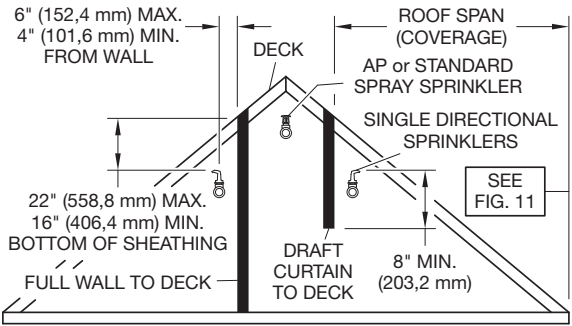

FIGURE 2
- As the 400 ft² (37,2 m²) is not a factor with the SD Sprinklers, the maximum spacing is 6 feet (1,8 m) and the minimum is 4 feet (1,2 m) (Ref. Figures 2 & 11). (The reason 400 ft² is not an issue with the single directional is because, at its maximum spacing, 6 feet [1,8 m] on center / covering 40 feet [12,2 m] flat / a 12:12 slope / and the throw being 56.5 feet [17,2 m], the 400 ft² [37,2 m²] maximum would not be exceeded.)